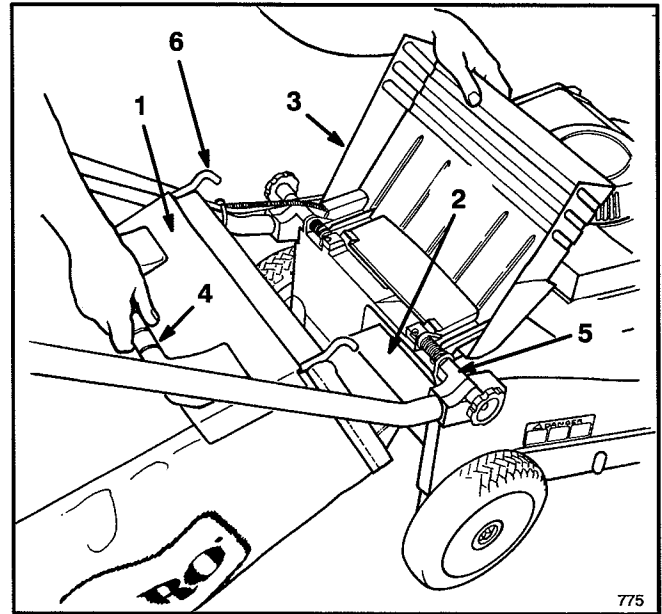
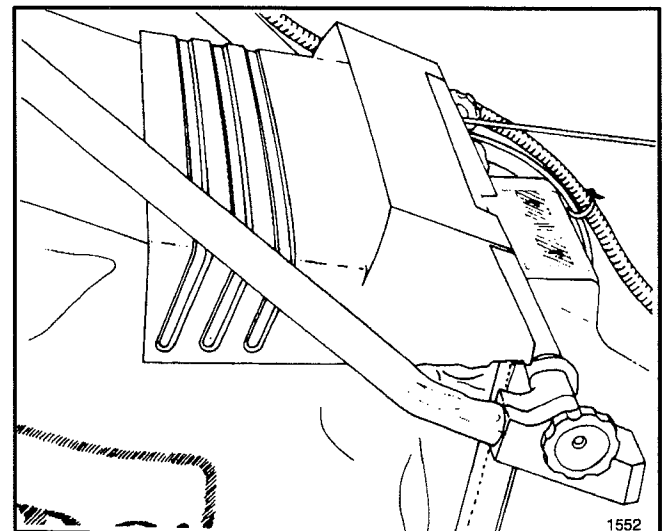

Figure 10
Figure 11
2. **INSTALLING BAG**—Raise discharge door, slide bag ramp attached to bag into discharge opening, and hook bag frame onto mounting bracket (Fig. 10). Allow discharge door to rest on top of bag (Fig. 11).